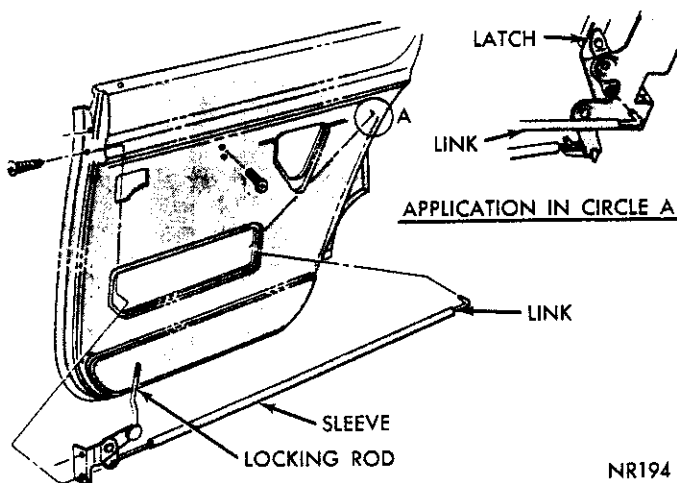

Fig. 20—Rear Door Locking Control
- (1) Disconnect handle to lock link (Figs. 20 and 21) and from lock by pulling link outward.
- (2) Disconnect locking lever rod (front door only) from lock.
- (3) Disconnect lock control rod from lock.
- (4) Remove lock assembly to door screws.
- (5) Rotate lock and disconnect remote control link when removing lock.
- (6) Lubricate all moving points of lock assembly.